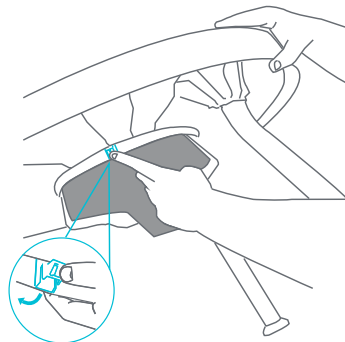

Fig. 13a
- 13 • To remove the seat, lift tabletop to expose one of three tabs underneath. Detach one of the tabs by pushing it off the tabletop (Fig. 13a).